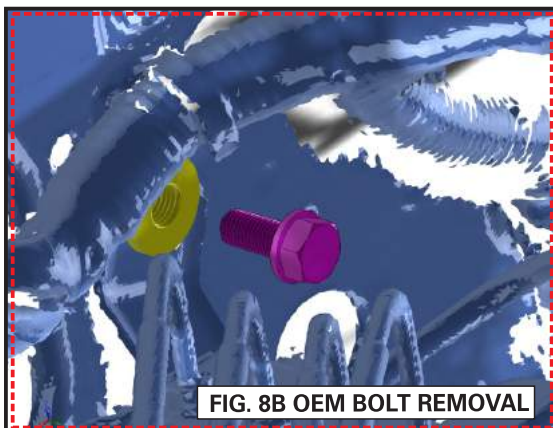

FIG. 8B OEM BOLT REMOVAL
3. Remove the OEM Bolt from behind the ABS module as show in Fig. 8B, hold on to this bolt as you will screw it back into this thread in a later step.